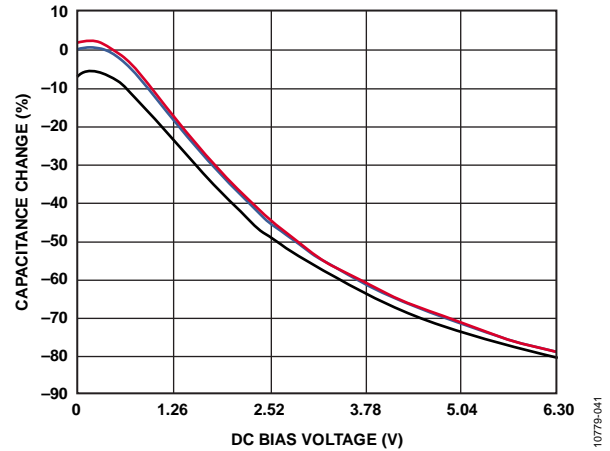

Figure 41. DC Bias Characteristic of a 6.3 V, 10 μ F Ceramic Capacitor
- C_{OUT} at $V_{OUT}(\text{max}) = 5\text{ V}$, is 3 μF , as shown in Figure 41.